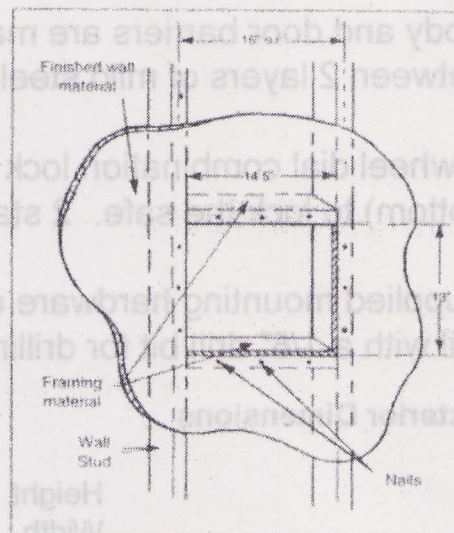

Figure 1. Wall Installation
STEP 1: Locate site of wall installation. If possible, locate between 2 studs as shown in figure 1. Safe depth is 15.75" - Ensure selected site holds safe
STEP 2: Layout and cut a hole 14.5" wide by 13" high between and along the studs (Figure 1).